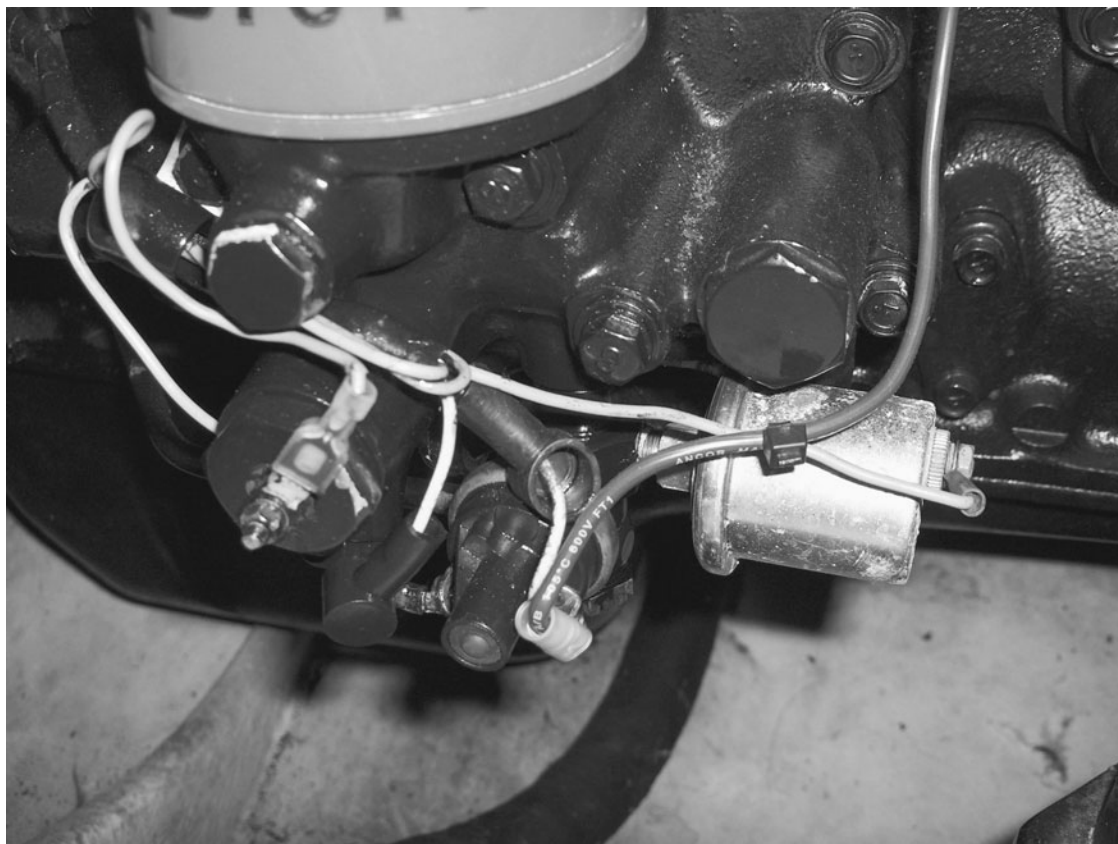

Fig. 1-10. Carry spare gauge senders.
7. Carry spare oil pressure and water temperature gauges and senders (Fig. 1-10). Engines have been rebuilt when all that was wrong was a failed oil pressure sender that showed no oil pressure. At the first sign of high water temperature or low oil pressure, be sure to consider a failed sender. On the other hand, you should definitely consider that the gauge is accurate until you know otherwise. Trust but verify; verify the alarming readings with mechanical gauges